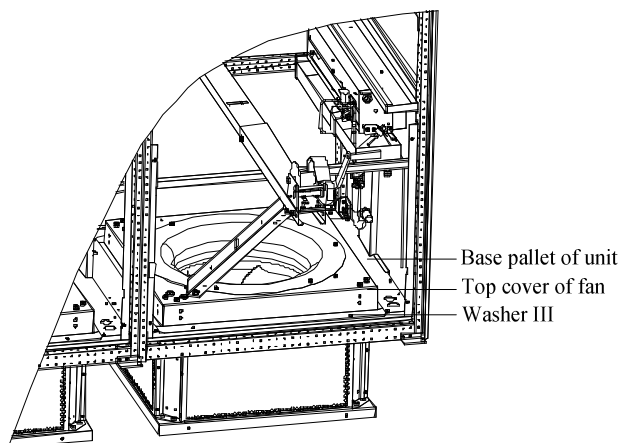

Figure 3-15 Lowered fan
4. Hold the handle of the winch firmly, and then turn the handle counter-clockwise to lower the fan. After the fan is sunk, the status is shown in Figure 3-15;
5. Install the fixing bolts and washers III (see Figure 3-15, totally 4 PCS) of the fan.